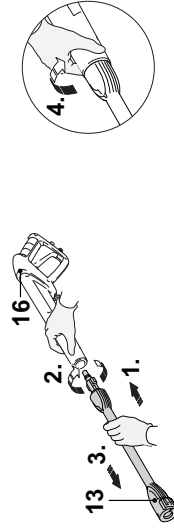

Fig. 9
1. Always attach the extension lance (13) when using the vario nozzle (19) (Fig. 9).